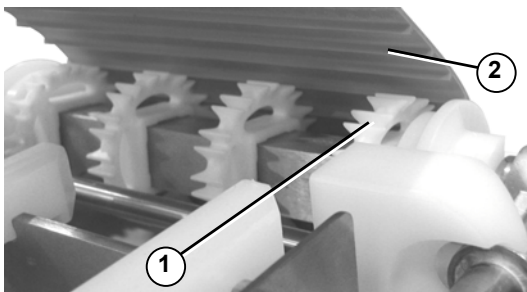
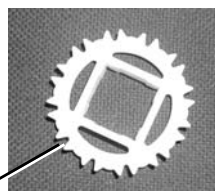

Figure 7
Figure 8
6. Align the sprockets (Figure 7, item 1) with the cogged drive teeth (Figure 7, item 2) on the inside of the belt.
Note: The cogged drive teeth on the belt (Figure 7, item 2) should engage the deep grooves of the sprocket (Figure 8, item 1).